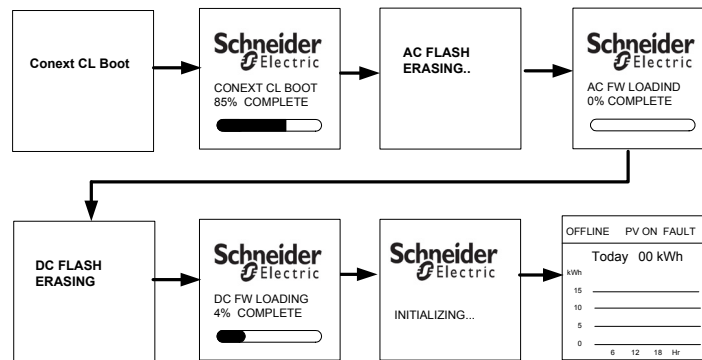

Figure 1-4 DUI screen
10. Once Control Boot loader files are copied successfully, inverter goes for reboot to upgrade new control processor boot loader. These status can be monitored on DUI as standard firmware upgrade sequence of DUI screens as shown in Figure 1-4 on page 1–6.